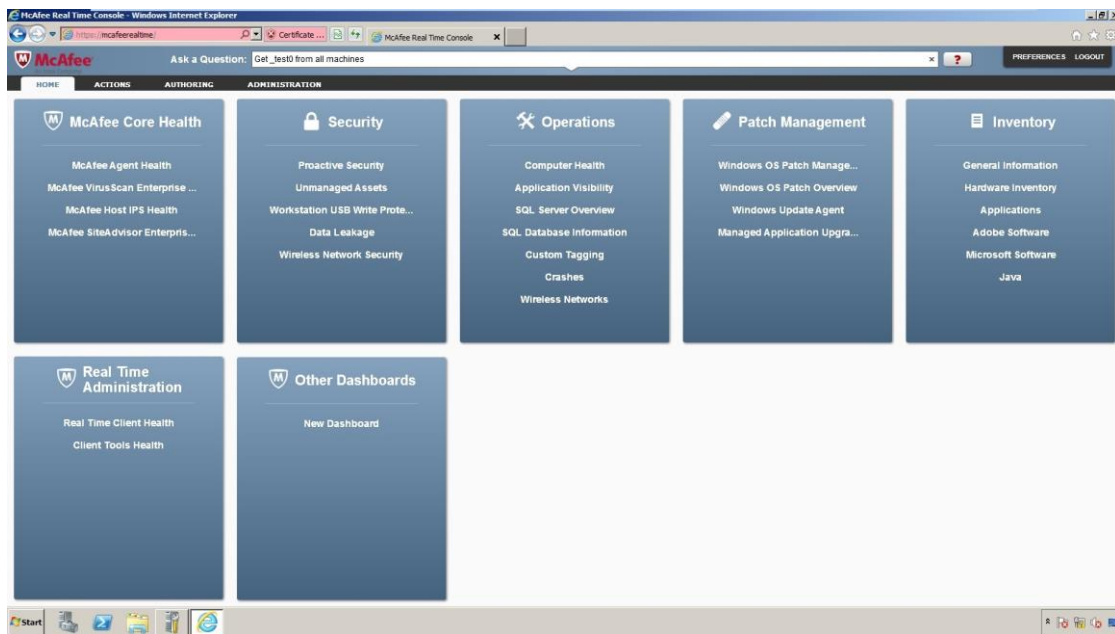

Figure 2: McAfee Real Time Console Dashboards
1. Log in to McAfee Real Time Console. The console displays the currently available dashboards, similar to Figure 2 below.